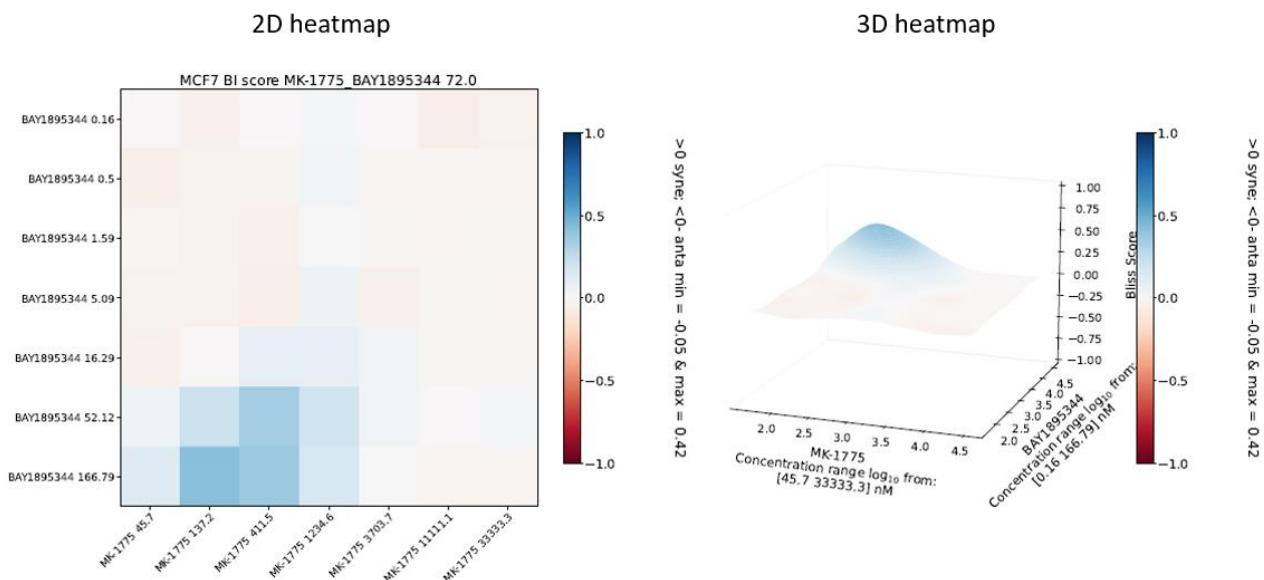

Figure 26: A heatmap 2D and 3D shown for the time point 72h, in case of ($n \times n$) matrix combination.
- 2D and 3D heat map in case of (n x n) matrix combination, Figure 26.
- Heatmap 2D and 3D for the main time points, only in case of (n x n) matrix combination, Figure 26.